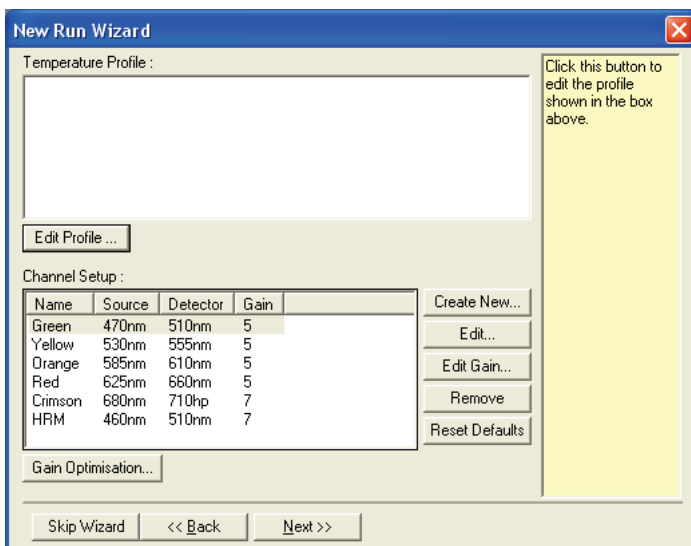

Figure 22. “Edit Profile” in the “New Run Wizard.”
5. Click **Edit Profile** in the "New Run Wizard" dialog box (Figure 22) and check the run parameters according to the following steps.